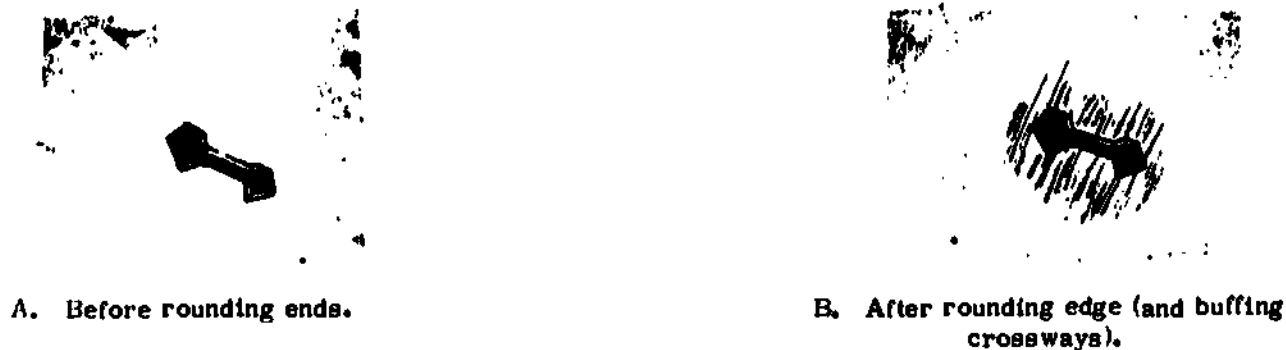
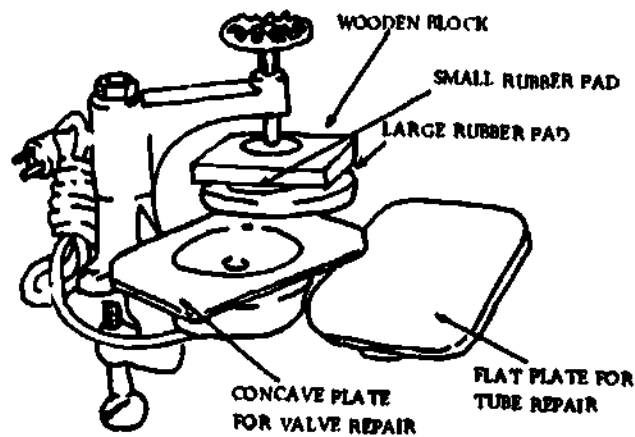

Fig 1-47. Preventing tube puncture from enlarging.
Fig 1-48. Electric-type vulcanizer.
- (1) **Prevent enlargement.** Punctures in tubes, especially synthetic ones, have a tendency to enlarge even after patching (A, fig 1-47). To prevent this, the ends of the puncture may have to be rounded or buttonholed. To round or buttonhole a puncture means to put a small hole at each side of the cut (B, fig 1-47). These little holes take most of the existing pressure off of the puncture and prevent the expansion of the cut.
- (2) **Buff area.** The area must be buffed about 1/2 inch beyond the edge of the puncture so that the patch will stick better. Buffing should be done across the cut as shown in B, figure 1-47. Items suitable to use for this purpose are sandpaper, a stiff wire brush, a file, and similar items. Do not make grooves in the rubber; just rough it up.
- (3) **Apply patch.** There are basically two methods for applying patches.
- (a) **Heat curing method.** The patch in this case is applied by heat. It can be electric heat or the patch itself can be lighted to generate its own heat. In both cases the patch must be clamped to the tube with a device made for this purpose (known as a vulcanizer) while heat is being applied (fig 1-48). Although a heat type patch is normally wrapped in a protective covering to keep the moisture out, it is often spoiled due to age.